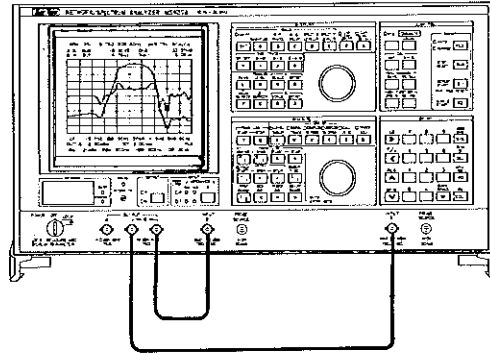

Fig. 2-34 Transmission Characteristic
5. Connection for X → S calibration is shown in Figs. 2-34 and 2-35.